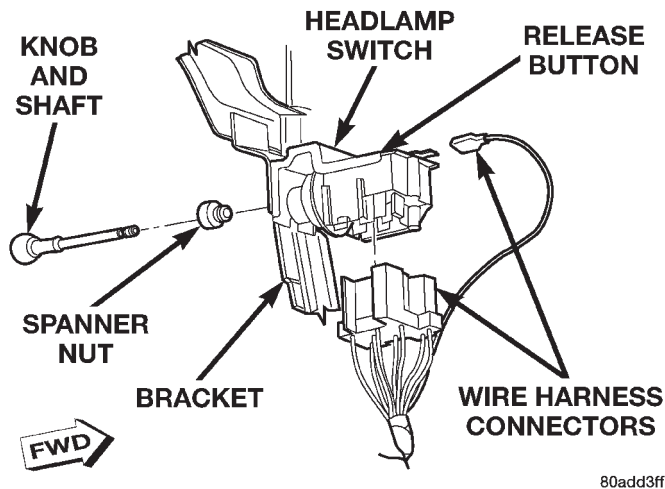

Fig. 5 Headlamp Switch Remove/Install
- (1) Disconnect and isolate the battery negative cable.
- (2) Pull the headlamp switch control knob out to the On position stop.
- (3) Reach up under the instrument panel outboard of the steering column to access and depress the headlamp switch control knob and shaft release button on the top of the switch body (Fig. 5).